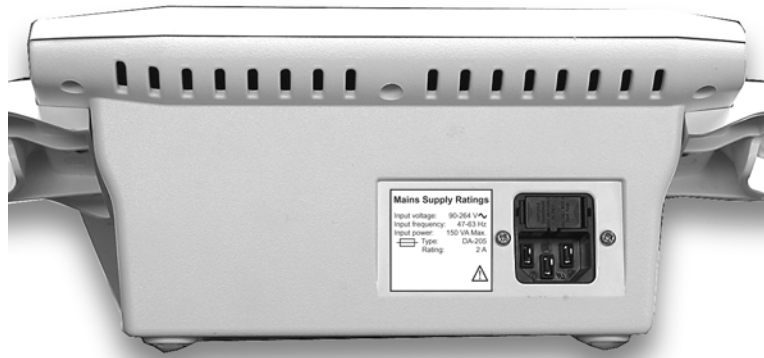

Figure 3.2— Laser Sys*Stim 540, Power Cord Connection
2. Plug the line cord into the back of the unit. (Figure 3.2) Plug the line cord (ME 7293) into a grounded wall outlet that is rated from 100 to 240 volts AC 50/60 Hz. Your power supply must match the voltage requirements listed on the serial number label of your device. Do not connect the Laser Sys*Stim 540 to a power supply rated differently than that described above. It is important that the Laser Sys*Stim 540 be operated from a wall outlet which has a nominal supply voltage equal to that indicated on the label on the rear panel. Safety and performance specifications are only valid if these voltages are the same. Verify that the mains/charging indicator is on.